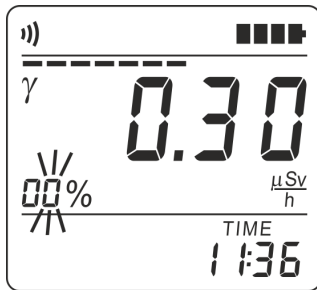

Figure 2.6 – LCD of the radiometer
2.3.3.6.23 As soon as all digits of the new threshold level are programmed, the LCD of the radiometer displays the specified limit of statistical deviations (Figure 2.6). Its low-order digit is blinking, which means that its value can be programmed.